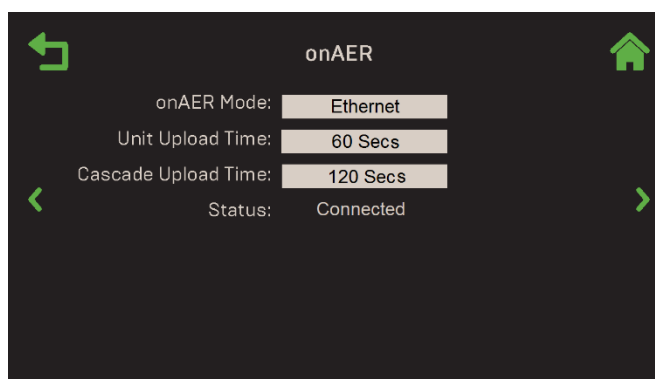

Figure 3-1: onAER Screen
3. Plug the Ethernet cable into the Edge Controller's Ethernet jack (see Figure 3-1).